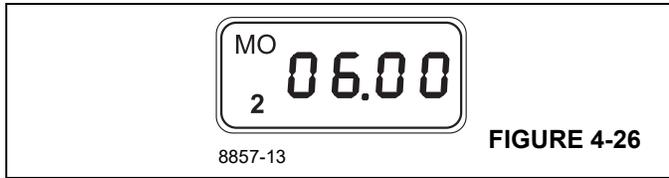

FIGURE 4-26
- the retrieved storage location, e.g. 2 (Figure 4-26).